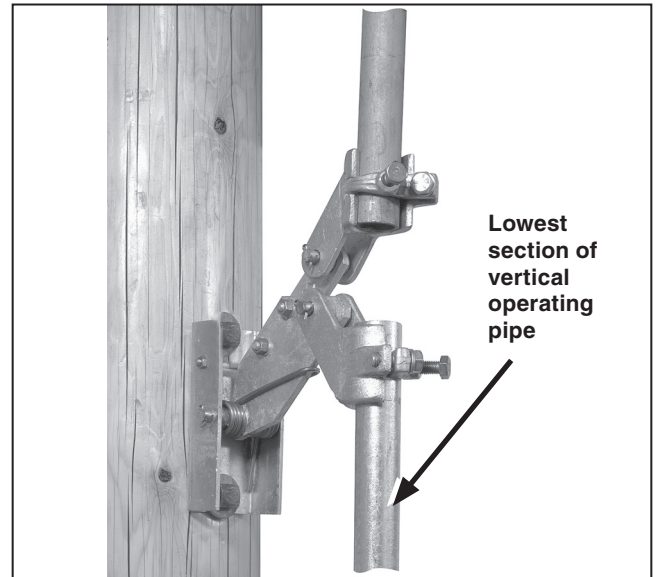

Figure 22. Installing lowest operating pipe section into rod guide
**STEP 19.** Insert the upper end of this pipe section in the lowest rod guide or—if only one vertical operating-pipe section is used—the offset coupling attached to the switch drive lever and, while holding the operating handle at a point approximately 20 degrees from the closed position, torque the rod guide (or switch drive lever) coupling clamp bolt. See Figure 22.